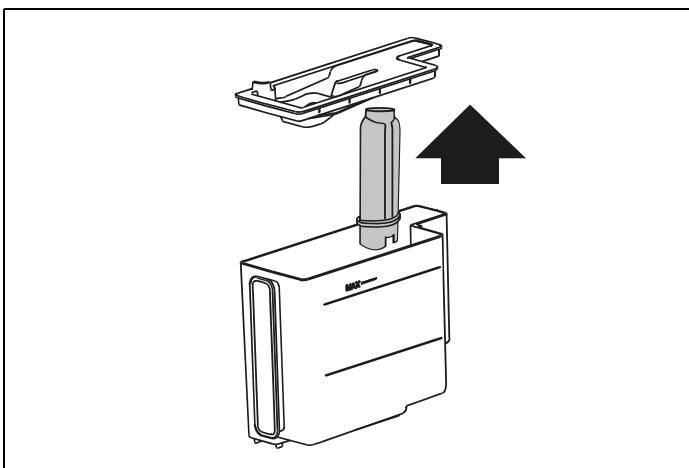

Fig. 55
- **Remove water filter** (Fig. 55): extract the water tank **(A12)**, remove the water softener filter **(C4)** (if present) and empty the water tank. Press \succ NEXT;